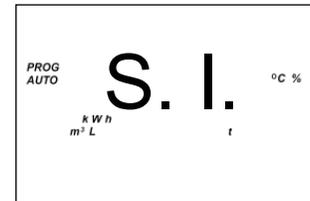

Fig. 13
Default units of measure are metric (°C, m³, L, tonnes). “S.I.” (Système Internationale) is displayed (not “5.1”) (Fig.13). To change to US customary units (°F, ft³, gal, tons):
- Press  and “S.I.” (Système Internationale) is displayed (not 5.1), indicating Metric units (Fig. 13)